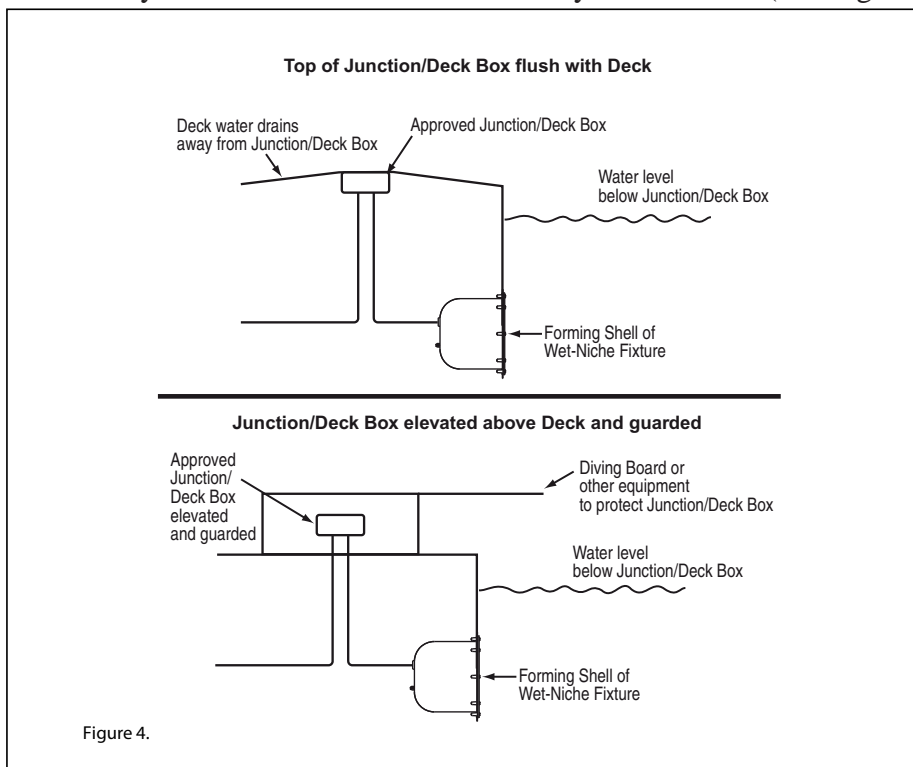

Figure 4.
- 3. The junction/deck box must be sealed to the conduit to prevent water from getting into the box, see Figure 4.
- in such a manner that any water on the deck will drain away from the box (See Figure 4).